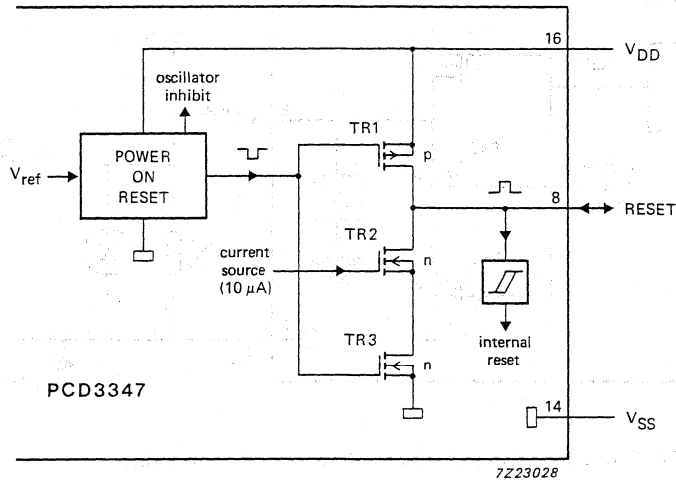

Fig. 18 Power-on reset configuration.
1. If  $V_{DD}$  has a fast rise time, i.e.  $V_{DD}$  reaches its minimum value before the RESET signal finishes ( $t_D$ ), then no additional circuit is required (see Figs 18 and 19). Note that the first instruction is executed after the oscillator start-up time plus 1866 clock periods.